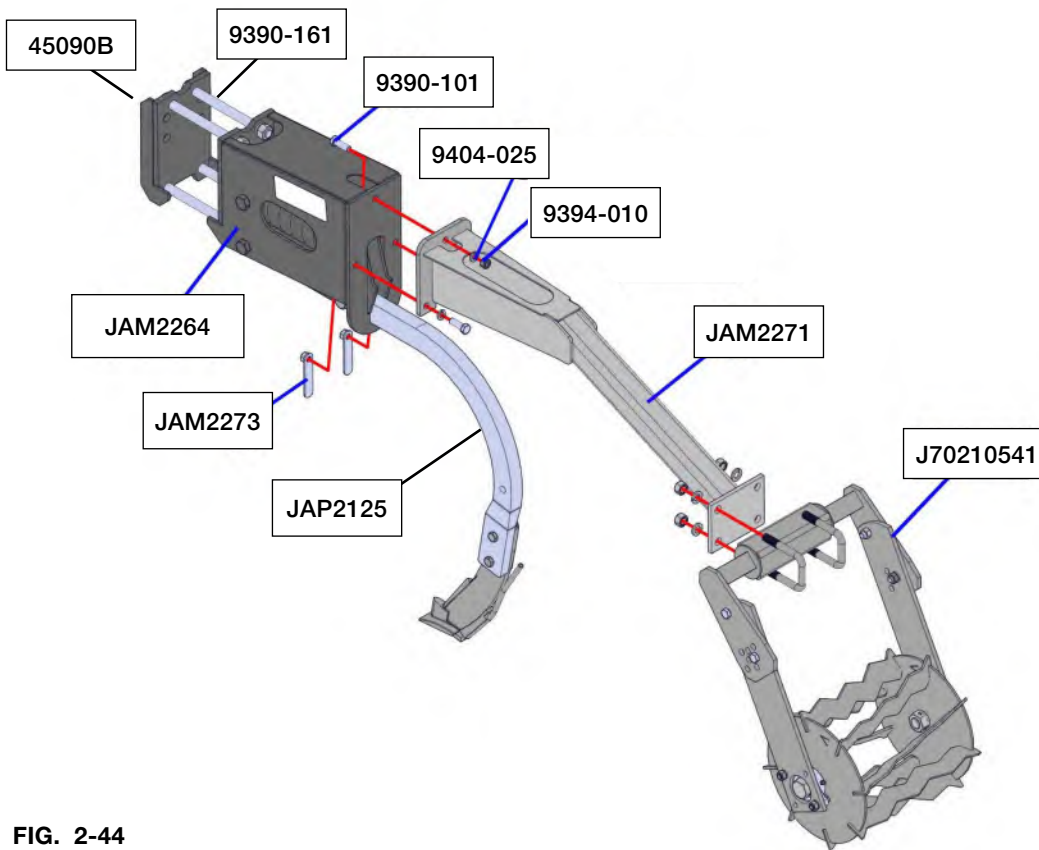

FIG. 2-44
1. Using a safe lifting device rated at a minimum of 150 lbs., secure MaxForce row unit (JAM2264) with 1 1/4" x 2" EdgeBent shank (JAP2125) with backing plate (45090B), 3/4"-10UNC x 8" capscrews (9390-161) 3/4" lock washers (9404-033), and 3/4"-10UNC hex nuts (9394-016). (FIG. 2-44)
2. Using a safe lifting device rated at a minimum of 100 lbs., secure MaxForce basket mount weldment (JAM2271) and torsion arm assembly (J70210641) to the MaxForce row unit (JAM2264) with two nut plate weldments (JAM2273), one 1/2"-13UNC hex nut (9394-010), three 1/2" lock washers (9404-025), and three 1/2"-13UNC x 1 1/2" capscrews (9390-101). (FIG. 2-44)